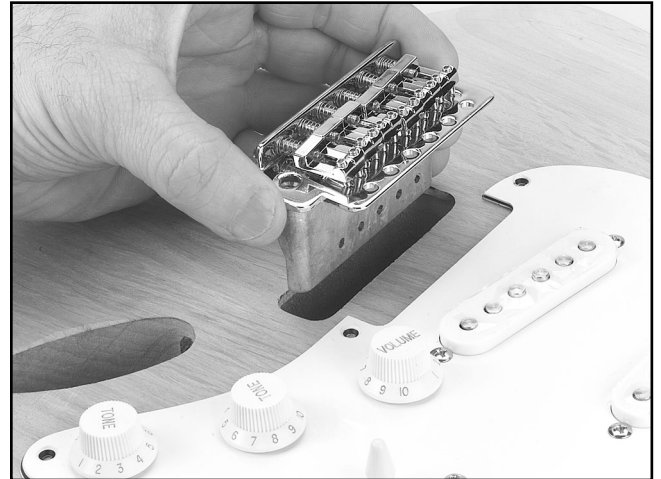

Figure 18. Tremolo bridge placement.
1. Place the tremolo bridge in the cut-out shown in **Figure 18**.